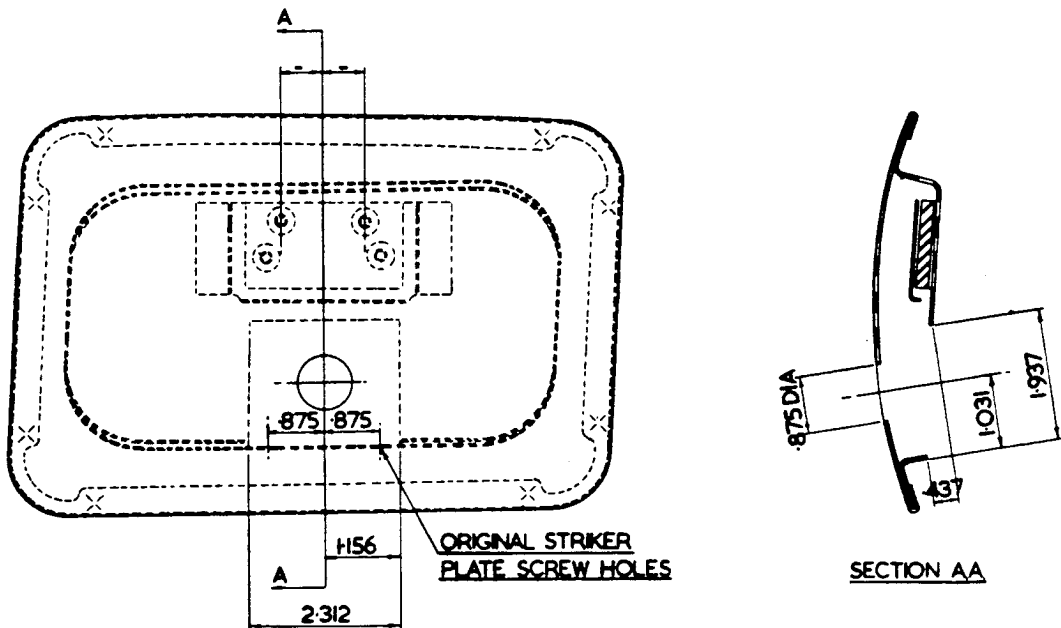

FIG. 2.
3. Mark off the datum line "AA" as shown in Fig. 2.
4. Mark off and then cut away the inner panel of the door as shown in Fig. 2.
5. Drill the outer panel of the door as shown in Fig. 2.